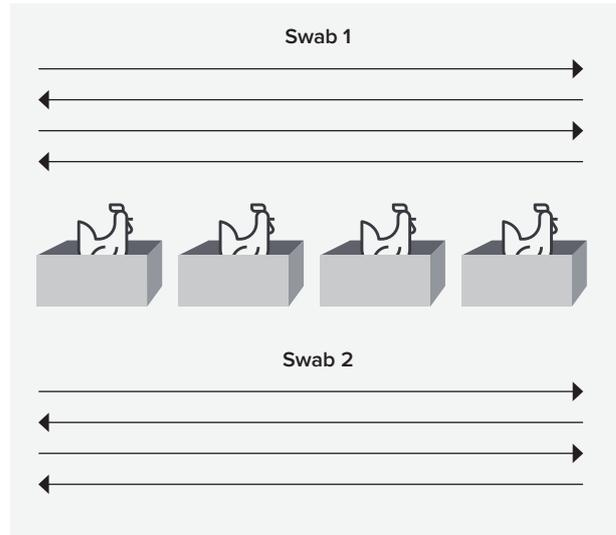

Figure A15 - Sampling procedure for a slatted shed
- Walk down the other side of the shed, in the manner shown by the arrow "Swab 2" in Figure A15.